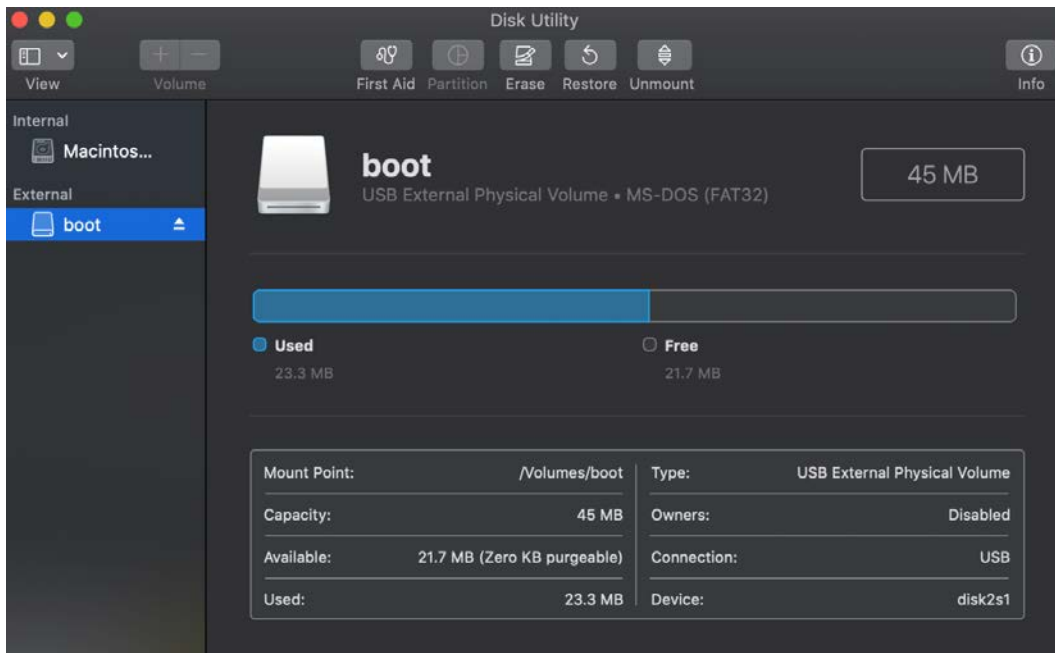

Figure 5.7 – The Disk Utility tool
1. Start the **Disk Utility** tool. When loaded, it should look like *Figure 5.7*: